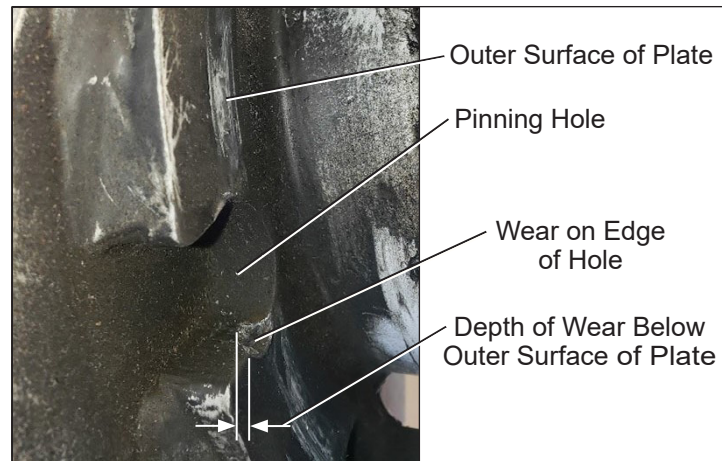

Figure 6 — Measuring Rotational Pinning Hole Edge Wear
9. Inspect the edges of each of the five pinning holes in the jib rotational indexing plate for wear (refer to Figure 6).
- If the edges are all unworn, proceed to step 10 and use a maximum edge wear distance of zero (0) in the calculation.